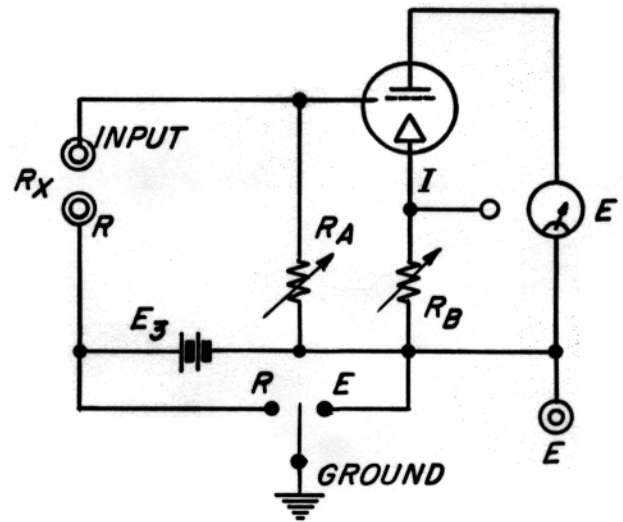

Figure 5. Resistance Measurement with Internal D-C Supply.
to R. (See Figure 5.) Instrument leakage from INPUT to ground (about 10^{14} ohms) will be across the unknown, and therefore may affect the final reading. The actual leakage value can be determined by a preliminary measurement with the unknown resistance R_x disconnected.
- (2) If the unknown resistance is not grounded, and especially if small high-resistance components (that need not be grounded) are to be measured, connect the unknown from the high INPUT terminal to the R terminal and set the GROUND switch to E (see Figure 5). Instrument leakage will be across the internal resistance standard R_A and will not introduce any error. Leakage across the unknown will be nonexistent.
(3) If the unknown resistance is a three-terminal resistance, connect the third terminal to the E terminal. Connect the other two terminals in accordance with (1) or (2) above.